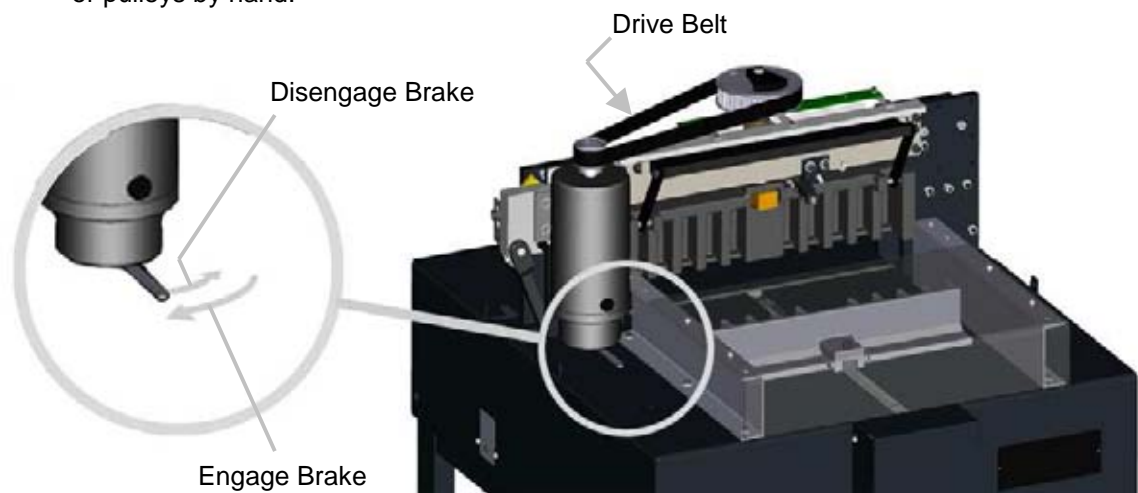

Figure 17
3. **MAKE SURE POWER IS DISCONNECTED** (see caution above) and manually move the clamp down by first disengaging the motor brake (Figure 17), and then rotating the drive belt or pulleys by hand.
5. Engage motor brake (Figure 17, page 21). **VERY IMPORTANT** – do not skip this step. Damage to machine could result if the motor brake is not engaged prior to running.